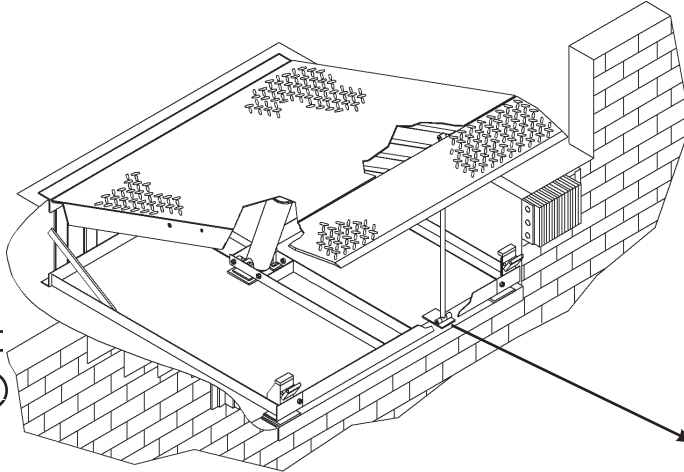

Figure 17
Whenever maintenance is to be performed under the dock leveler platform, support the platform with maintenance prop (C). Position the maintenance prop behind front header plate (D) while staying clear of the lip. The lip will fold down after the platform has rested on the maintenance prop. Lock the maintenance prop in the service (upright) position using an OSHA approved lockout device\* (B) and tag out device\* (A). See Figures 17 and 18.